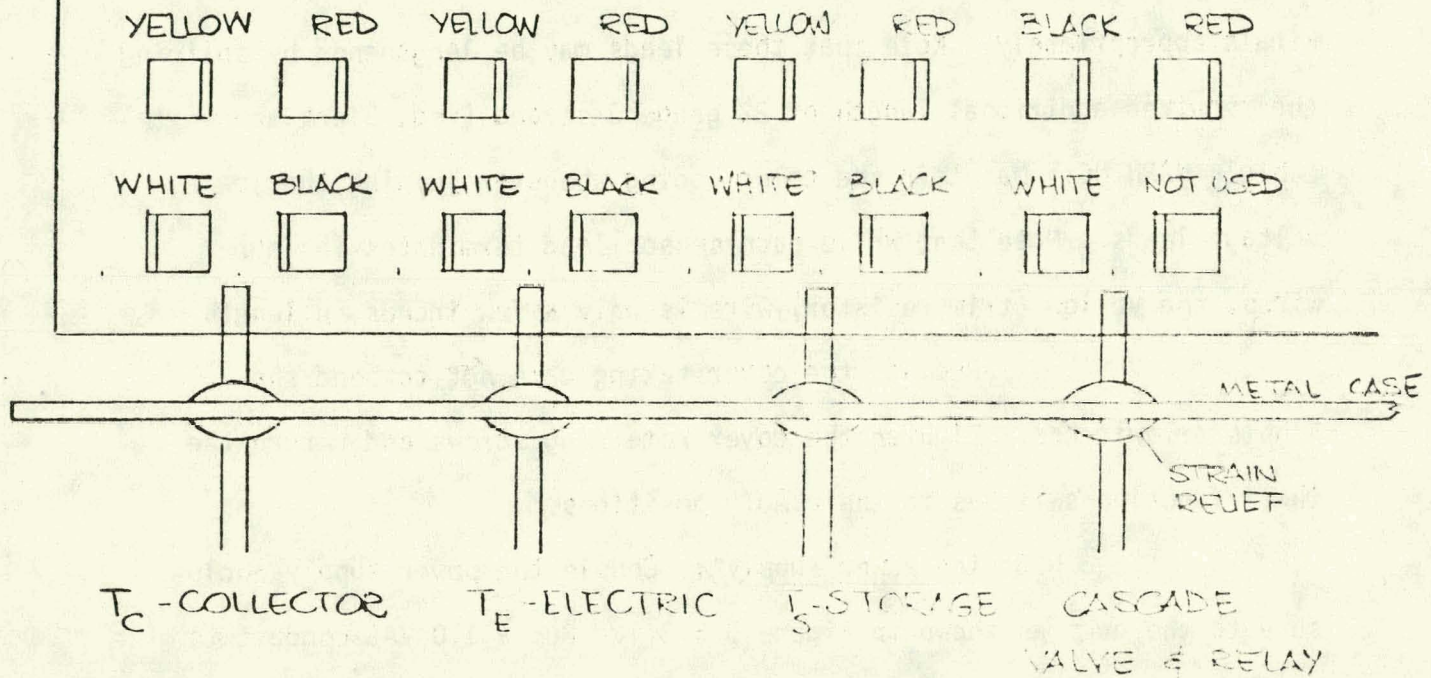

FIGURE 3.5.2.1 CONTROL LEAD COLOR CODING
3.5.2 The Low Voltage Electrical Leads: Connect the four low voltage leads as indicated in Figure 3.5.2.1. Gently insert the grommets into their strain relief grooves and then couple the spade terminals appropriately. Note that these leads may be lengthened by splicing the required additional length of 22 gauge 3 strand (red, black and white) cable. WARNING: Maintain the color coding whenever joining the low voltage leads. Note that while each sensor lead terminates in four wires, the yellow (trim resistor) wire is only a few inches in length.